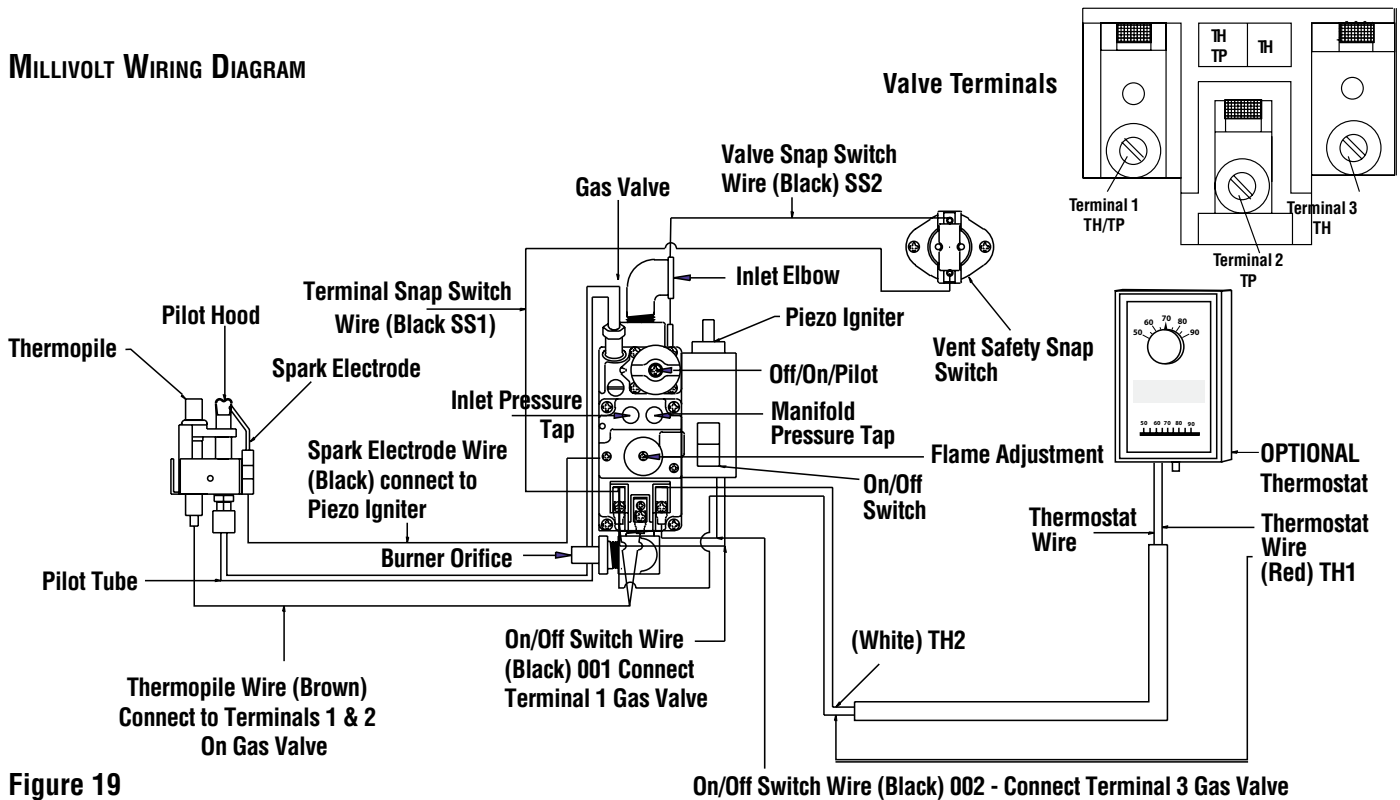

Figure 19
To check for proper operation, use a multimeter and perform the system checks shown in Table 4 (and refer to Figure 19).
- See Millivolt Control Schematic (Figure 19) for information on thermostat and On/ Off switch.